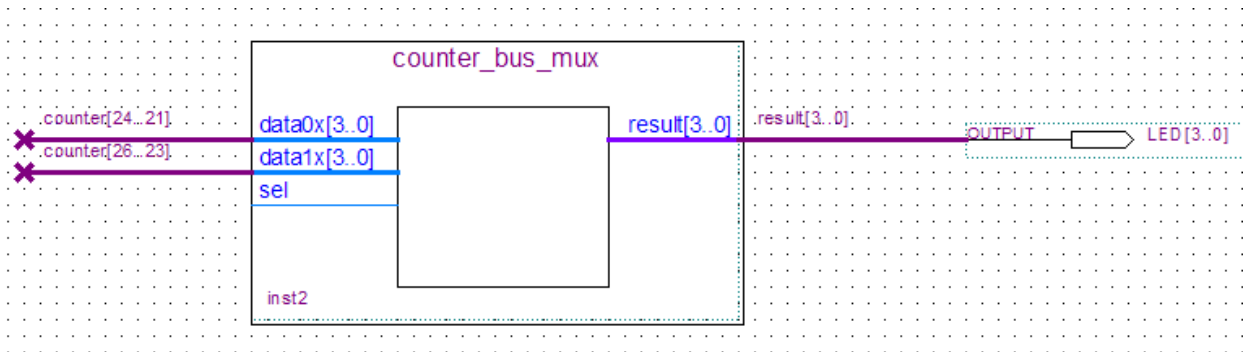

Figure 6-39 Rename the output pin
20. Rename the output pin as LED [3..0]. (see **Figure 6-39**).